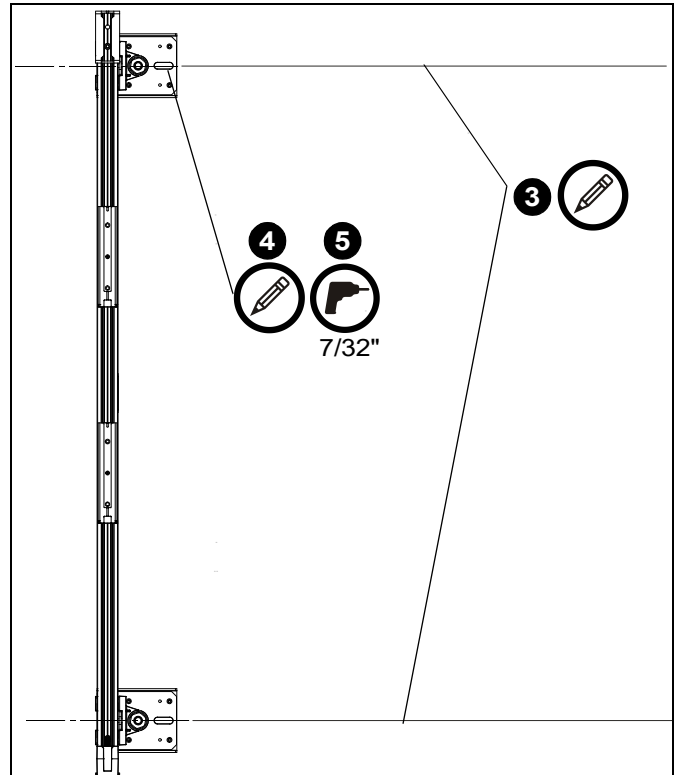

Figure 2
3. Draw level horizontal lines at vertical locations determined in Step 2b using a 4-foot level or a laser level. (See Figure 2)
4. Mark mounting hole location along upper line based on horizontal locations determined in Step 2a. (See Figure 2)
5. Drill a 7/32" at the location of the first upper mounting hole. (See Figure 2)